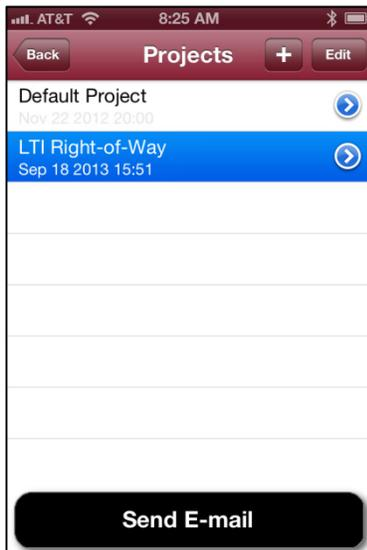

Figure 20
1. Tap "Projects" from the Measure main screen. A list of existing projects will be displayed (Figure 20). The project "Default Project" may be the only one if it's the first time a project has been created.